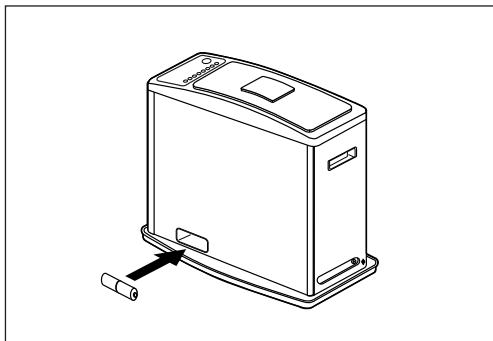
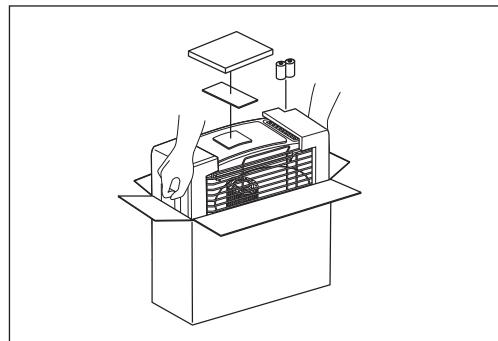

Fig. 12
Fig. 13
Carefully following the instructions for storage given below will insure that your heater will operate efficiently and safely next season (Fig. 12/Fig. 13).
- Remove the batteries (Fig.12) from the battery case before storing the heater to prevent leakage and corrosion. Remove the 5 cabinet screws and lift off they the cabinet and grille assembly.